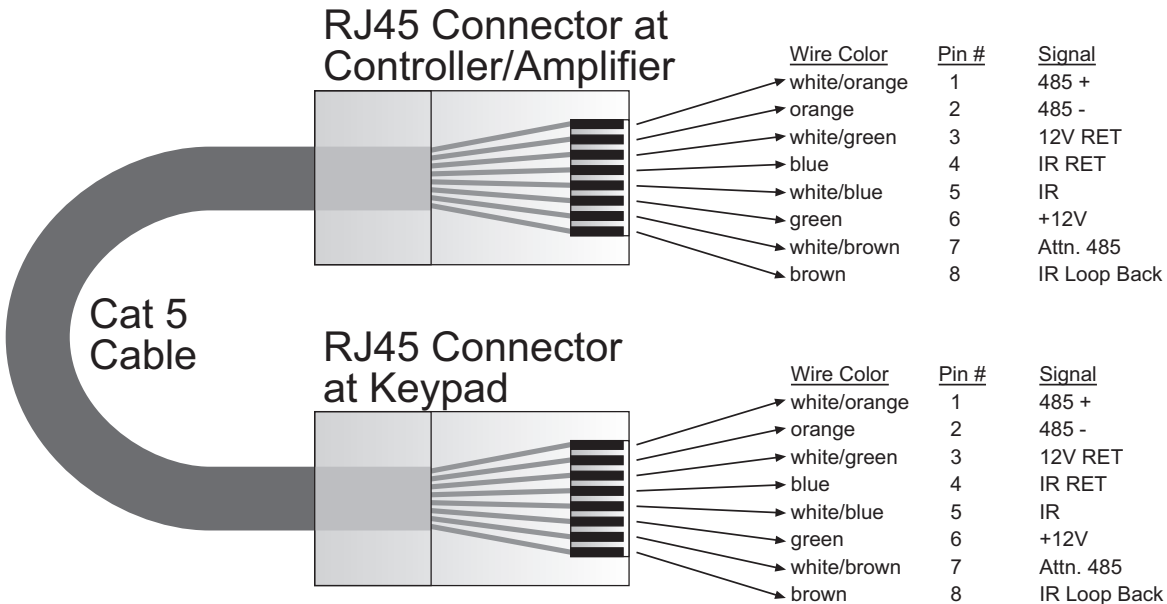

Figure 10 - CAT5 Pin Assignments (per EIA/TIA 568B) Pinned 1:1
3. With the Controller/Amplifier turned off, connect the CAT5 cable to the appropriate RJ45 connector, using **Figure 10** as a guide for CAT5 termination.
The MRC88 'Pin-to-Pin' CAT5 cabling that can be purchased pre-fabricated at fixed lengths or self-assembled to custom lengths. The color-coded wiring standard is EIA/TIA 568B as shown in **Figure 10**. The plastic connector on the end of the CAT5 wire is "registered jack" RJ45.
1. See **Figure 10** for proper termination of the CAT5 cables to the RJ45 connectors.
1. Refer to **Figure 10** for proper termination at the zone-end of the CAT5 cable.
1. For a second keypad in the same zone, terminate the CAT5 cable in the same way as shown in **Figure 10**.